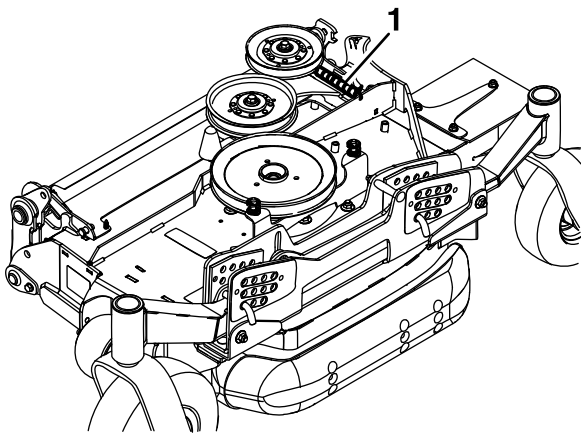

Figure 88
23. To ease installing the wing deck sections, carefully remove the exposed end of the spring that applies pressure to the rear of the wing deck cover (Figure 88).